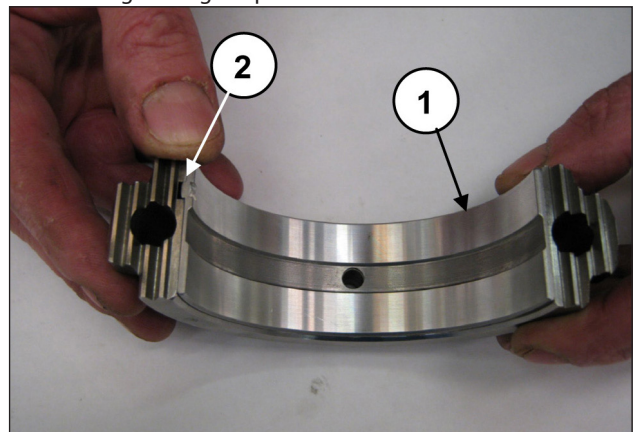
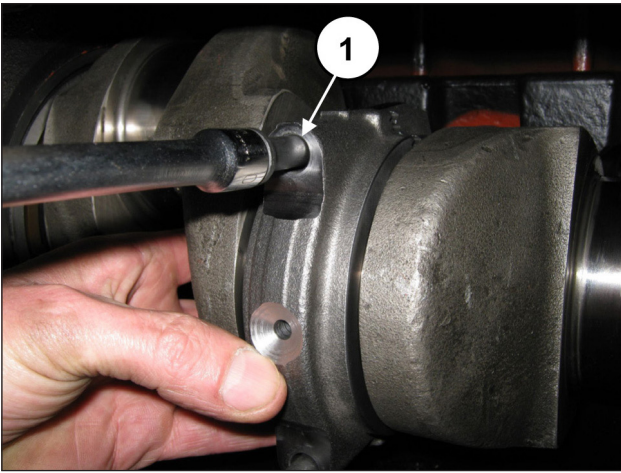

Fig. 67
Fig. 68
Apply the lower half-bearings to the caps (pos. ①, Fig. 67) ensuring that the half-bearing reference notches are positioned in their housing on the cap (pos. ②, Fig. 67). Fasten the caps to the half supports by means of M10x1.5x80 screws (pos. ①, Fig. 68).